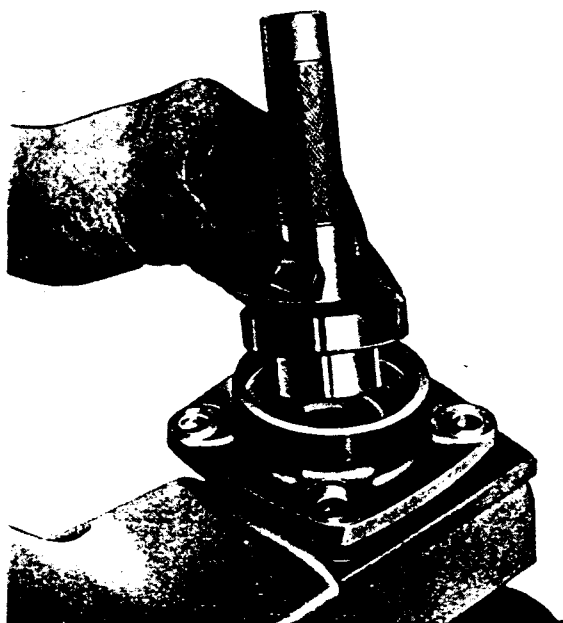

FIG. 4
1. Replace inner snap ring (10).
2. Using service tool FT.31B (Fig. 4), drive seal into position in cover (4) locating on snap ring.
3. Replace collar (8) in oil seal (12) from the rear, with large chamfer leading.
4. Replace bearing (1), locating on snap ring (10).
5. Replace snap ring (11).